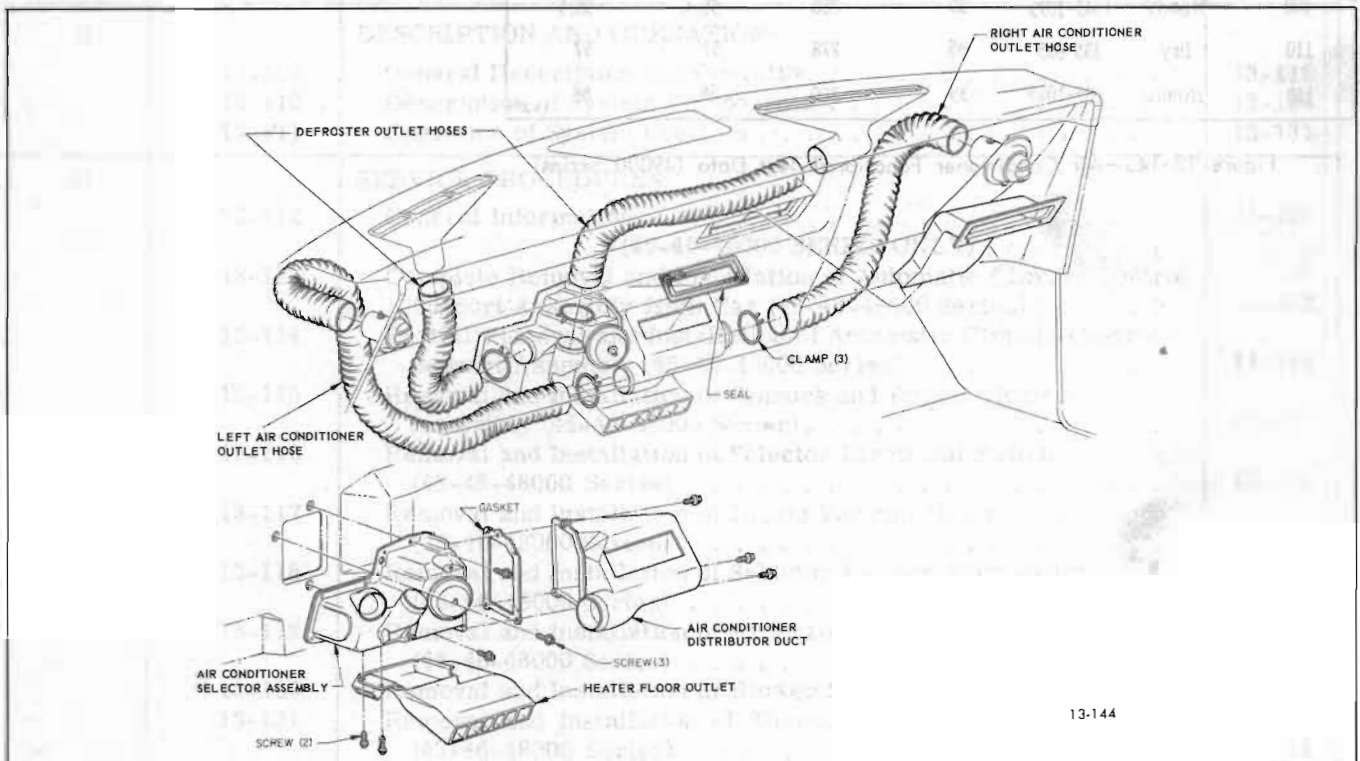

Figure 13-142—Installation of Air Conditioner Distributor Duct, Selector Assembly, Heater Floor Outlet and Hosing (49000 Series)
5. Remove heater floor outlet (see Figure 13-142) from a/c selector assembly.